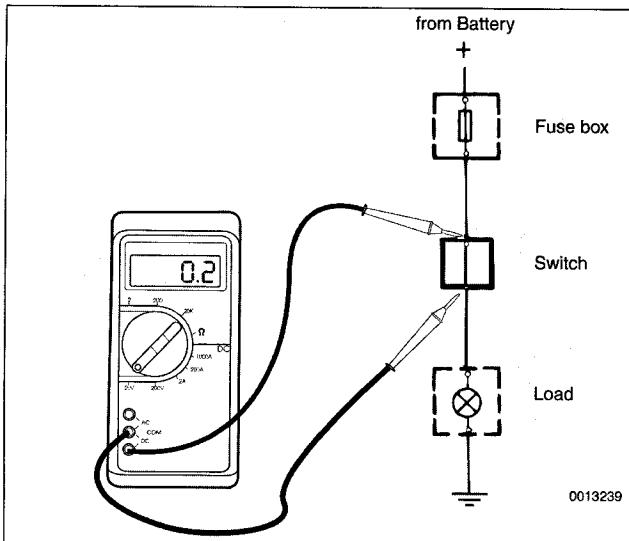

Fig. 2. Digital multimeter being used to check for voltage drop across a switch.
2. Connect digital multimeter negative lead to other end of cable or switch being tested. See Fig. 2.